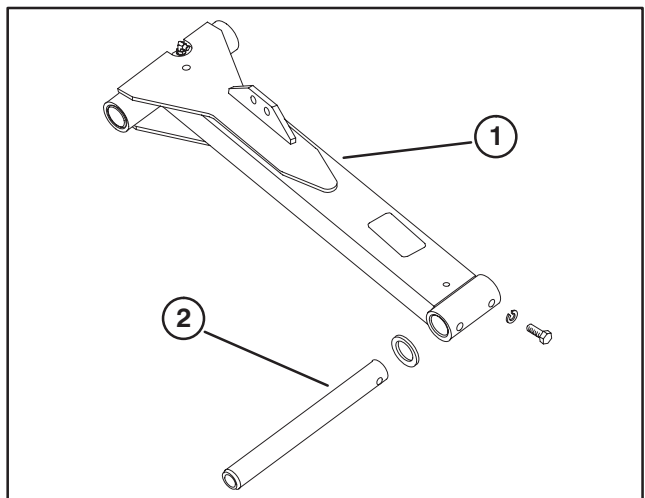

Figure 6
INSTALL FRONT LIFT ARMS (Fig. 6 - 8)
1. Insert a pivot rod into left lift arm and align mounting holes (Fig. 6).